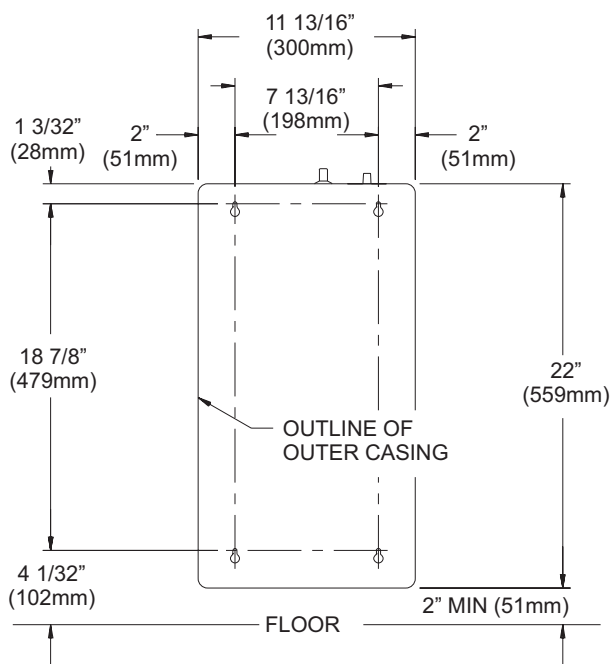

Figure 9 (SR-6)
Refer to Figures 9, 10, 11 and 12 for measurements in order to locate (4) mounting holes on wall. Figures 9, 10, 11 and 12 are the front views of the heaters.